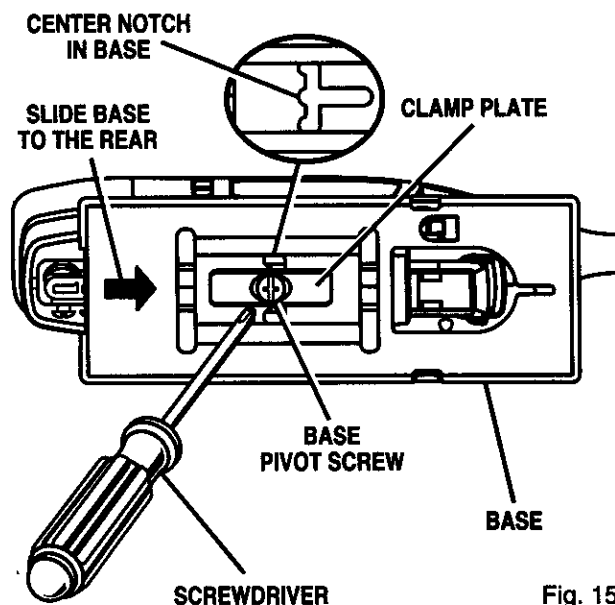

Fig. 15
See Figures 15 and 16.
- Using a screwdriver, loosen base pivot screw and rotate base 180° as shown in Figure 15.